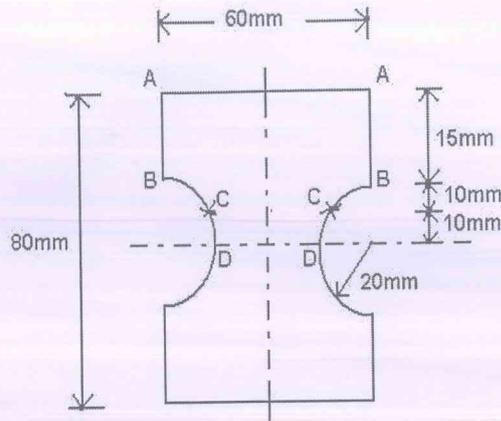

Fig.2
7. For a section shown in figure 2. Determine the shearing stresses at A,B, C and D for a shearing force of 23kN. Also sketch the shear stress distribution across the section.
b) A solid conical bar of circular section is suspended vertically as shown in Fig.2. If the length of the bar is 'l' and the weight per unit volume of the material of the bar is 'w', determine the total elongation of the bar due to its own weight.